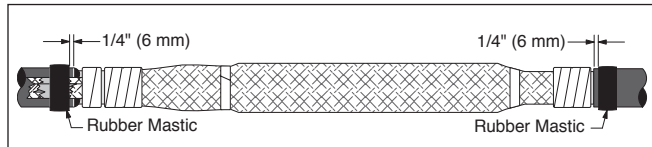

Figure 23
- 8.1 Apply one roll of slightly stretched rubber mastic tape (2" [51 mm] wide unmarked roll), 1/4" (6 mm) from each jacket end (tacky side toward cable). Stretch and tear the end of the rubber mastic and smear into itself (*Figure 23*).